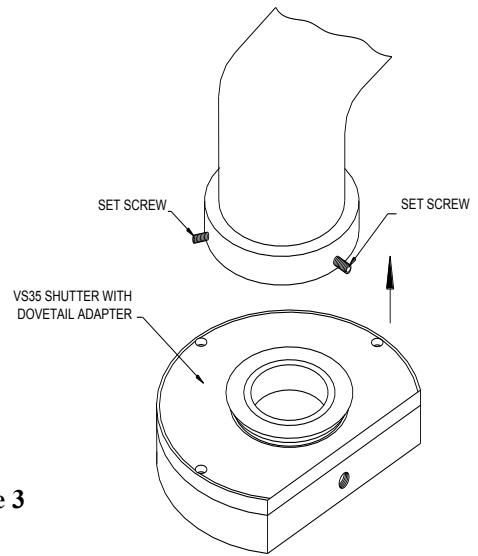

Figure 3
Attach shutter case with dovetail adapter to dovetail ring, adjust case position as desired. Using (3) set screws attach the adapter to the ring, to securely hold the shutter. (see Figure 3)